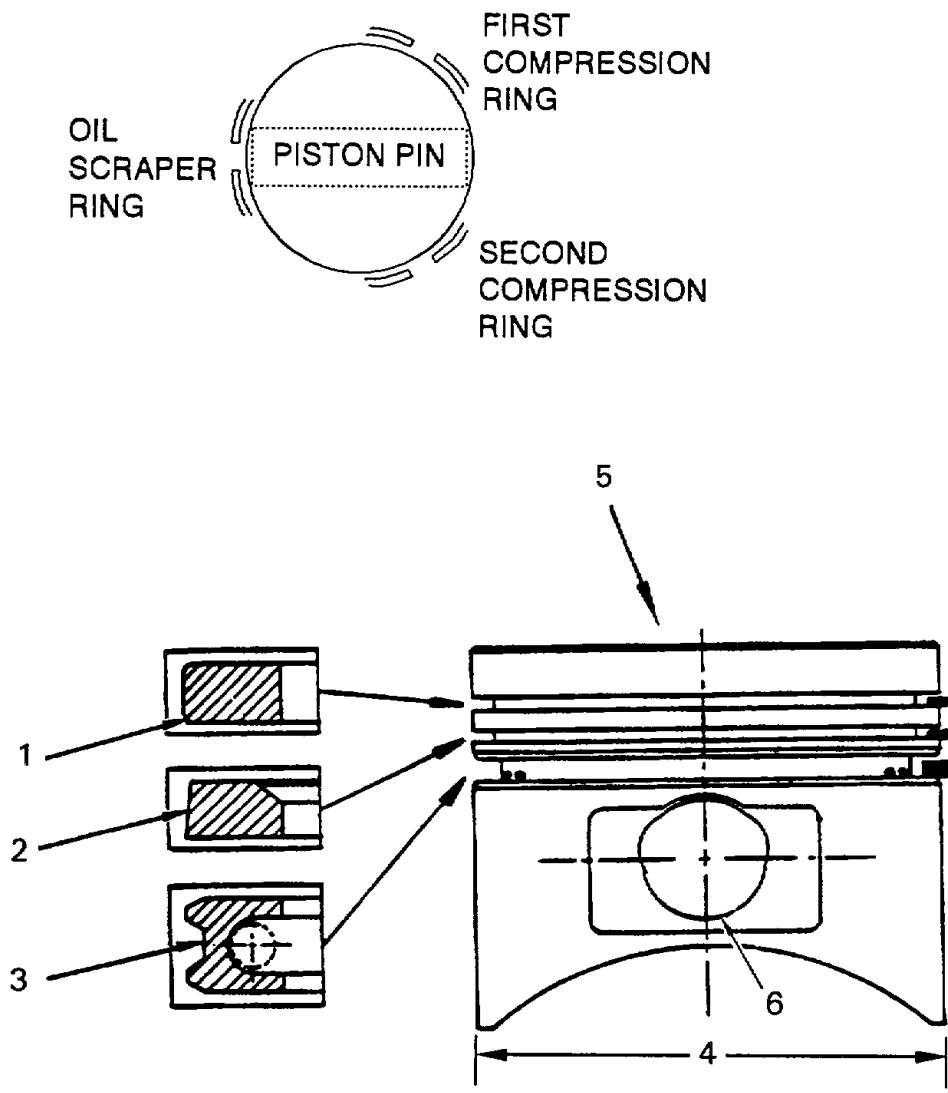

Figure 6-26. Piston Ring Installation
6.4.4 Install Piston Rings. (Refer to figure 6-26.)